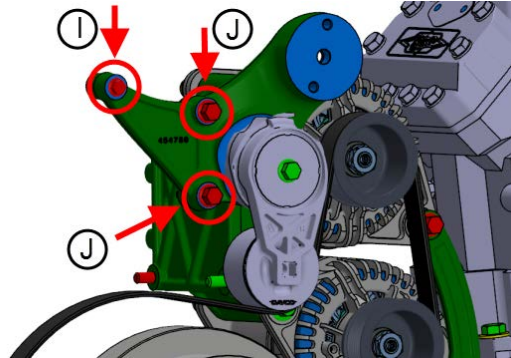

FIGURE 23
29. Mount the alternator belt tensioner bracket assembly loosely using previously removed bolts I & J (FIGURE 23).